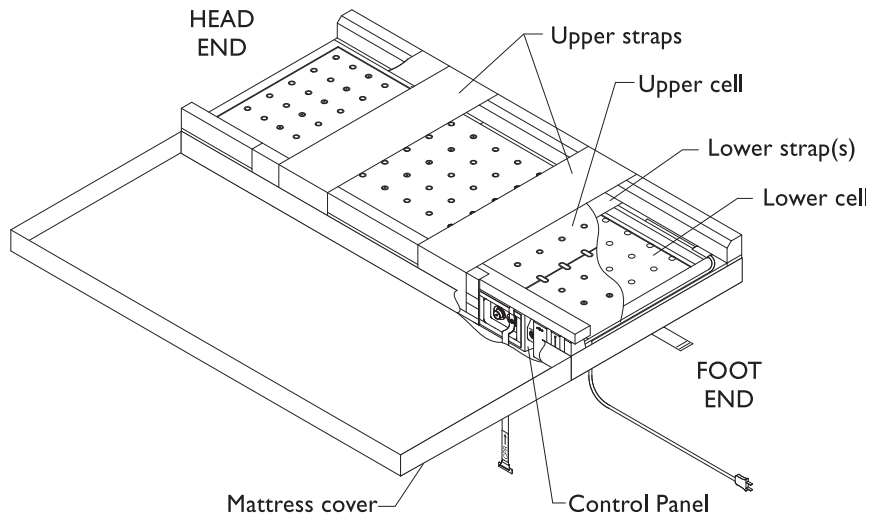

Figure 12—RSM Sof•Matt Mattress
2. Unzip the mattress cover (fig. 12) to expose cells.
4. Remove the upper cell (fig. 12) by sliding it between the straps within the foam crib toward the head end of the mattress.
- Slide the upper cell (fig. 12) between the straps within the foam crib toward the middle of the mattress and then fold back the upper cell toward the head end.
2. Unzip the mattress cover (fig. 12, p. 21) to expose cells and panel assembly.